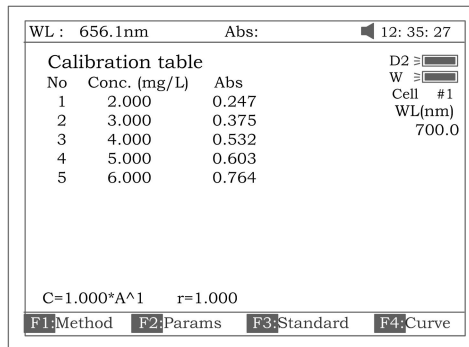

Fig 33
- 3.3.3** Pull the first sample cuvette of known concentration into the light path, Press the key **【START】** to get values of standard curve one by one (Fig 33).
In Fig 33 press **【Load】** and then press **【^】** or **【v】** to select the file with type *****.fit**. At last press **【ENTER】** TO confirm.